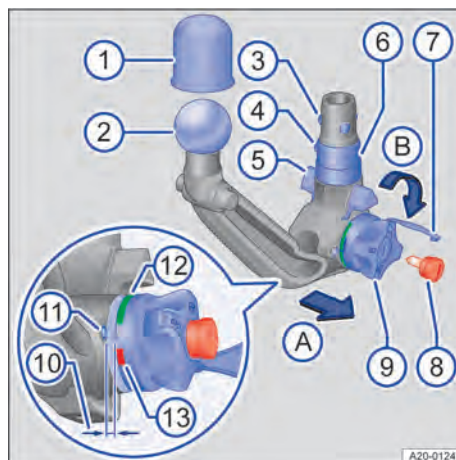

Fig. 144 Overview: removable ball coupling.
4. Remove the lock cap → Fig. 144 ⑦ from the lock on the handwheel.
5. Insert the key → Fig. 144 ⑧ into the lock and turn it anti-clockwise.
6. Hold the ball coupling → Fig. 144 ② tightly in one hand → ▲.
7. Use your other hand to pull out the handwheel → Fig. 144 ⑨ in the direction of arrow ① and hold it in this position.
8. Turn the handwheel → Fig. 144 ⑨ as far as it will go in the direction of the arrow ②.
9. Hold the handwheel → Fig. 144 ⑨ in this position and guide the ball coupling ② downwards out of the mount. The ball coupling engages and is pre-tensioned.
2. Use your other hand to turn the handwheel → Fig. 144 ⑨ as far as it will go in the direction of the arrow ③.
3. Press in the ball → Fig. 144 ④.
4. Turn the handwheel back → Fig. 144 ⑨ anti-clockwise.
5. Release the ball → Fig. 144 ④. The handwheel no longer protrudes from the ball coupling. The ball coupling is now slackened.
6. Turn the key → Fig. 144 ⑧ clockwise and remove. Store the key in the stowage box.
7. Close the lock cap → Fig. 144 ⑦.